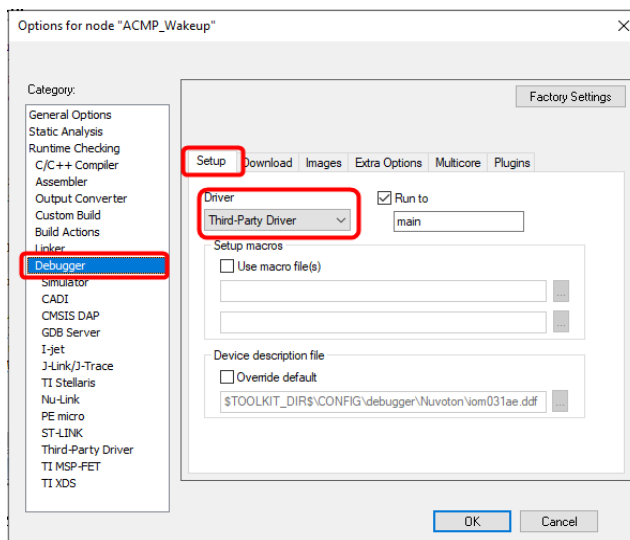

Figure 5.2-28 Set IAR EWARM as Third-Party Driver for Debugger & Programmer
- (4) In the **Setup** tab of the **Debugger** page, select **Third-Party Driver** as the driver, as shown in Figure 5.2-28.